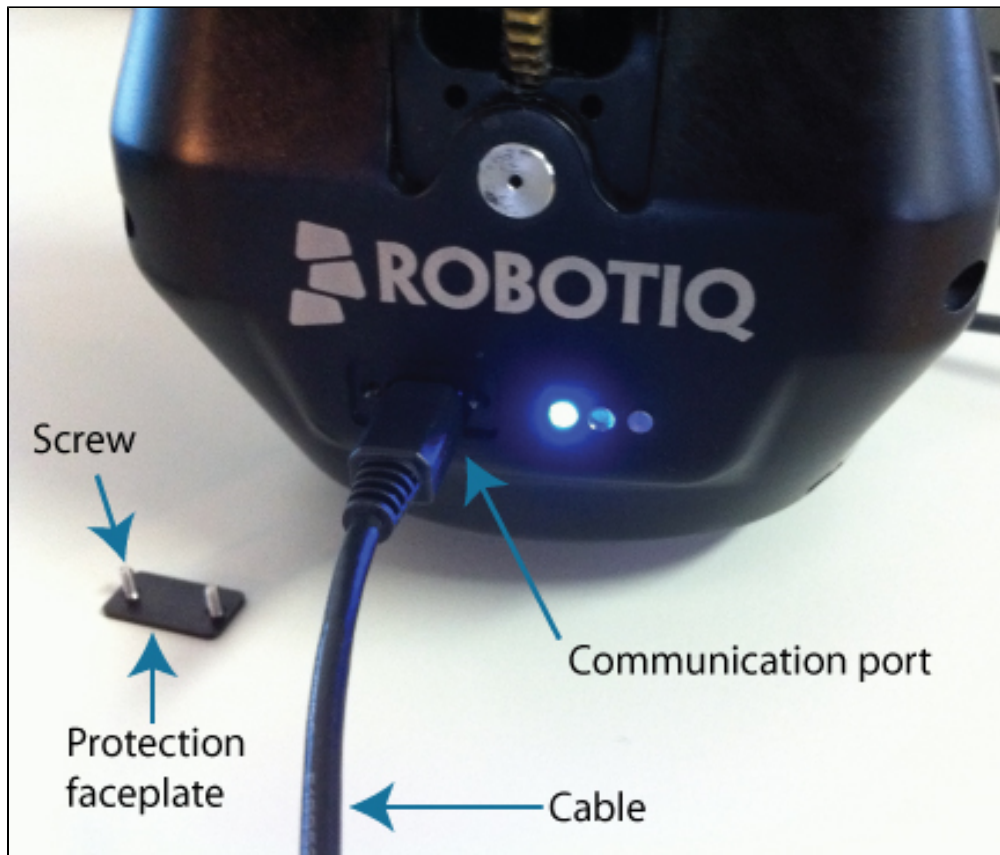

Figure 5.2.2 : Unscrewing the USB port panel and connecting the USB 2.0 Micro cable.
2. Remove the USB port panel by unscrewing the two screws (shown in Figure 5.2.2). A Phillips screwdriver is needed.
4. Replace the USB port panel by screwing back the two screws (shown in figure 5.2.2). A phillips screwdriver is needed.